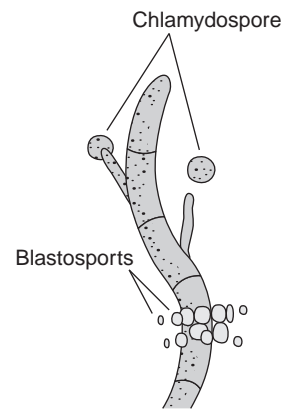

FIG. 7.2e. *Candida* pseudomycelia or pseudohyphae.
4. Deuteromycota. (Plate 23) These molds are referred to as **imperfect fungi** (*Fungi imperfecti*) because their sexual stage of reproduction is unknown. A number of these have been reclassified as Ascomycota. *Candida* is a member of this division (Fig. 7.2e).